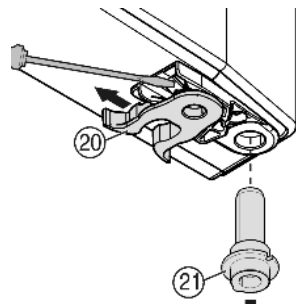

Fig. 8
- ▶ Transfer the spring clamp *Fig. 8 (20)*: Depress the latch nose and pull the spring clamp off over it.
- ▶ Pull the bearing pin *Fig. 8 (21)* out of the door bush and transfer it to the opposite side together with the washer. The latch nose must point to the inner side of the door, the notch to the outer side.
- ▶ Swing the door in at the bottom and insert the bearing pin *Fig. 8 (21)* into the turn hinge. If necessary, turn the bearing pin until it snaps into place.